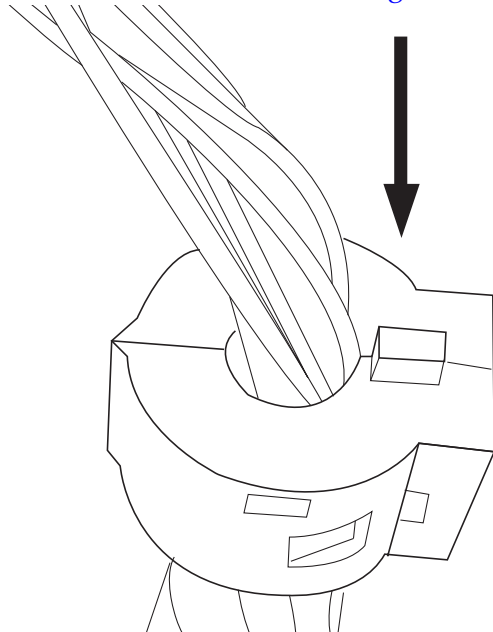

Figure 10-3: Ferrite Core
5. Reinstall ferrite cores. See Figure 10-3.